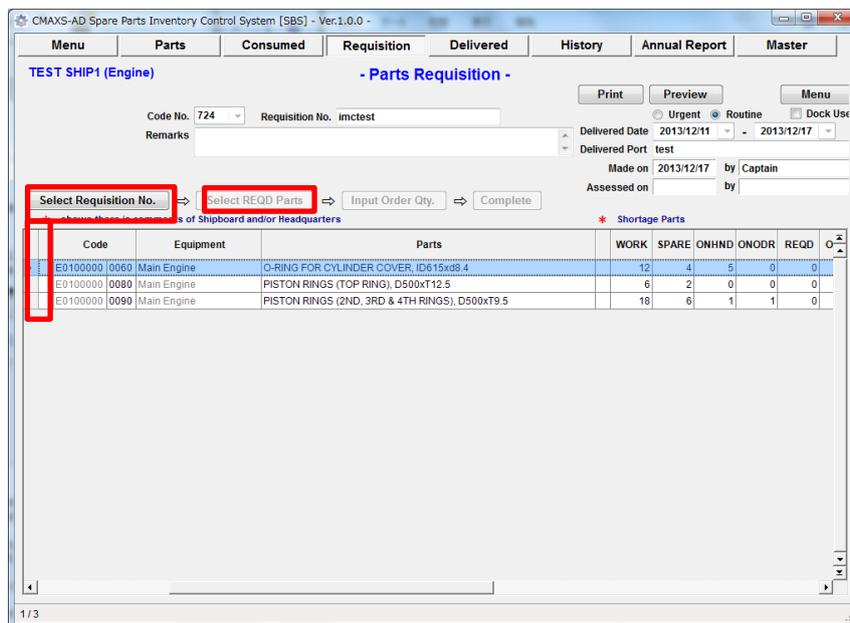
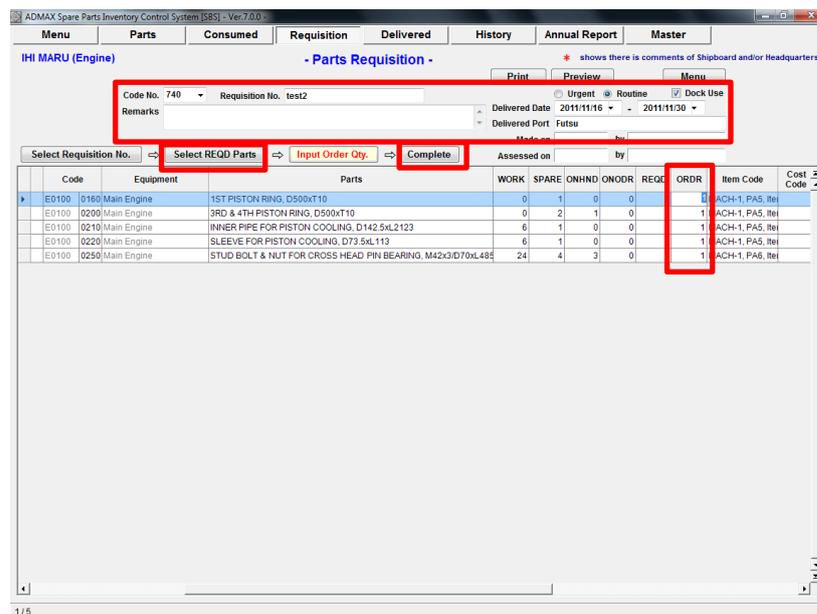

Fig 6.2 Select Required Parts
Fig 6.4 Input Order Qty.
2. "Select Required Parts Screen"(Fig.6-2) is displayed. In this screen, all spare parts of which Required is greater than 0 (Required > 0) are shown.
- "Input Order Qty Screen"(Fig.6-4) is displayed instead of Fig.6-2. (Go to step 7)
7. "Input Order Qty Screen"(Fig.6-4) is displayed. In this screen, all spare parts selected by step 3 & 4 are shown.